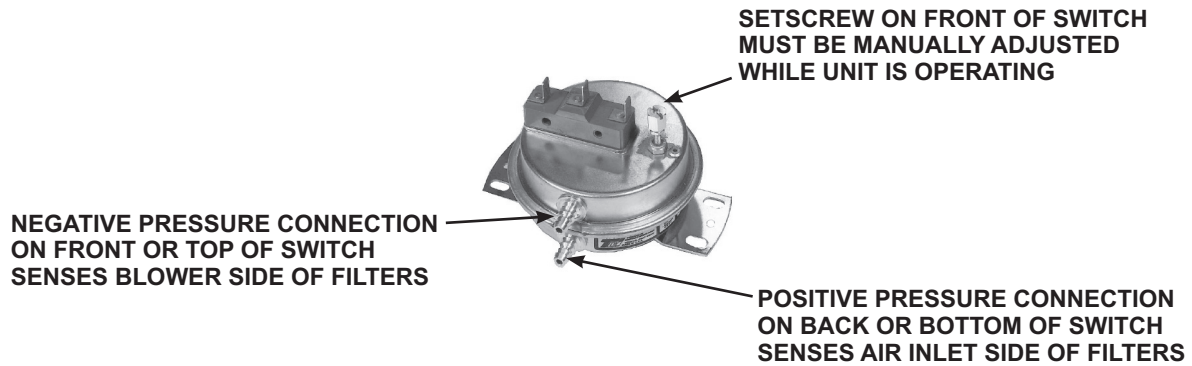

Figure 22. Dirty Filter Switch
1. With clean filters in place, blower doors closed, and blower operating, decrease pressure setting by adjusting setscrew on switch (see **Figure 22**) clockwise until indicator light is energized or setscrew is bottomed out.